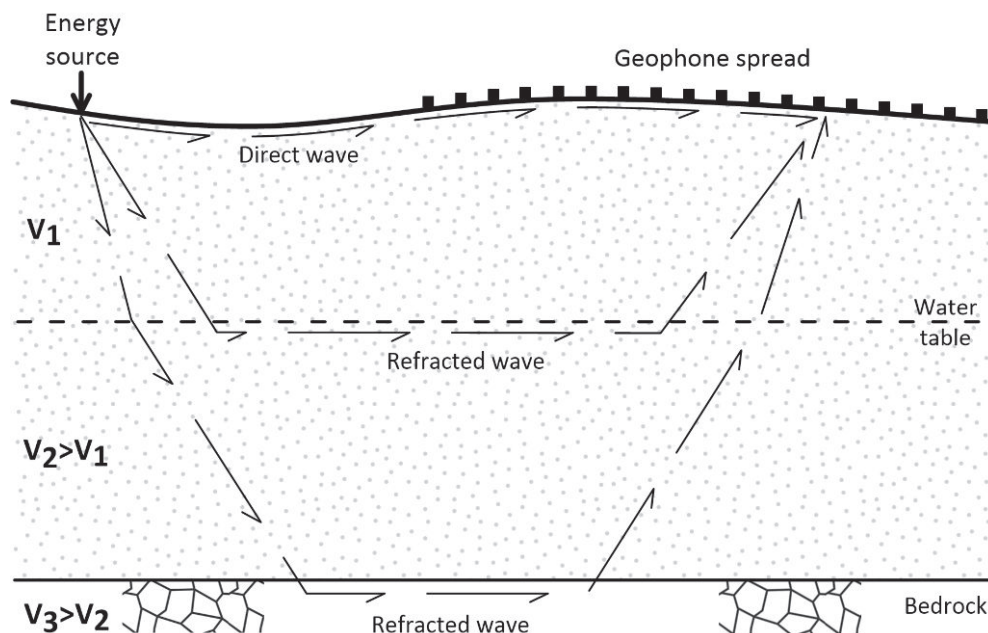

Figure 3 Seismic model showing the basic principle of refraction method.
The seismic refraction method is based on the measurement of arrival times of seismic waves refracted at interfaces between geological layers. The method is used to obtain velocity depth models and to map interfaces between layers with significant velocity contrast such as water table and bedrock surface. Compressional (P) wave or shear (S) wave refracted arrivals can be recorded using vertically or horizontally oriented sensors and sources, respectively. Figure 3 is a schematic of a simplified seismic model showing the basic principle of the refraction method.